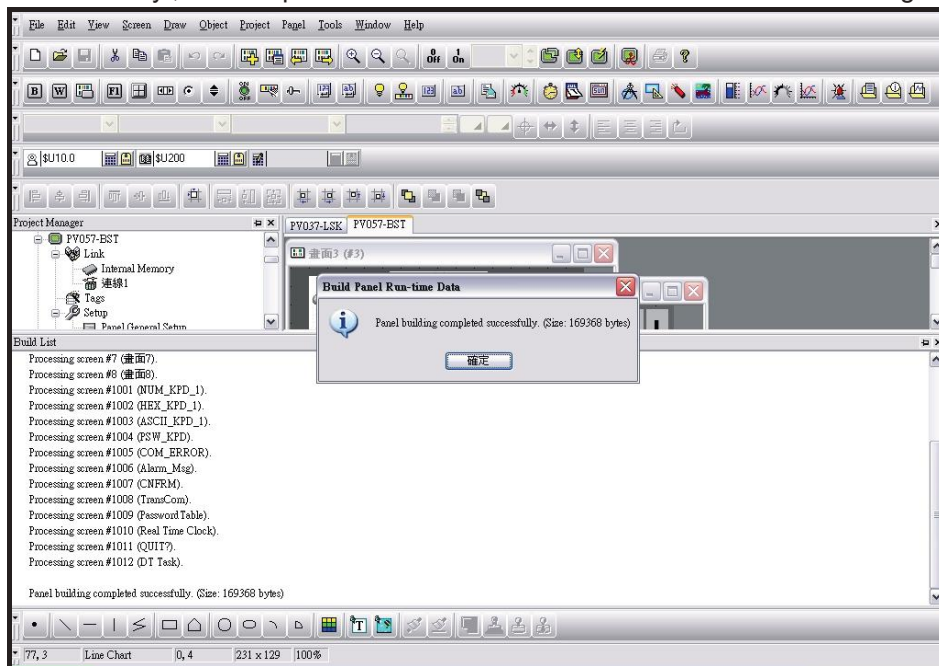

Figure 2-99 New project_step 8_ “Build touch run-time data” (compile successful)
Step 8 : Modify all errors and execute “Build touch run-time data” again to make sure all errors have been corrected. Only when there is no error occurred and the file is compiled successfully , the compiled file can be use to download. See as shown in figure 2-99.